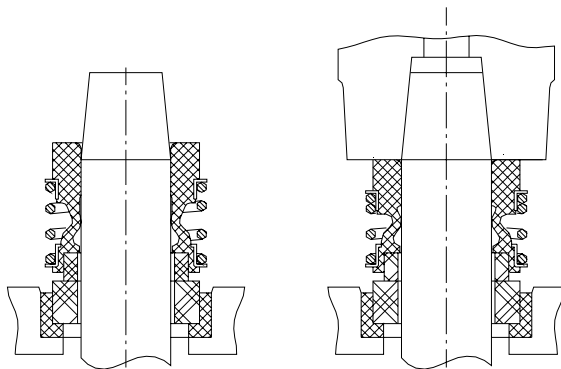
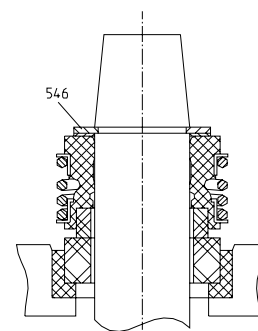

Fig. 17
Fig. 18
Wet the rotating part of the mechanical seal with soapy water. Push the whole assembly by hand over the shaft as far as possible. On size 20 mm (Fig. 17) final assembly by installing of impeller. On other sizes (Fig. 18) secure with snap ring (546).